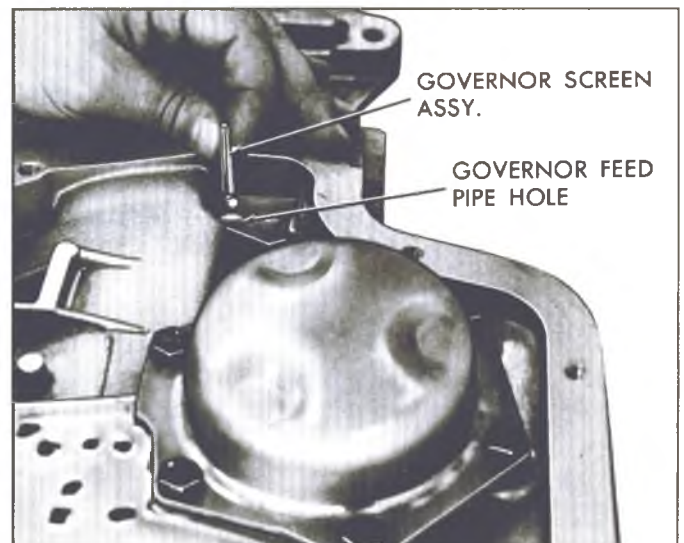

Fig. 30T—Governor Screen Position
4. Remove control valve body assembly and governor pipes. If care is taken in removing control valve body the six (6) check balls will stay in place above the spacer plate.
5. Remove the governor screen assembly from end of governor feed pipe or from the governor feed pipe hole in the case (fig. 30T). Clean governor screen in clean solvent and air dry.